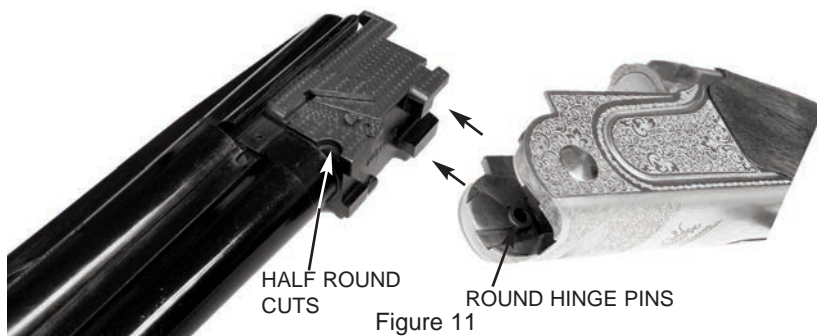

Figure 11
2. Move the top lever fully to the right, and assist the barrel swing with your hand by pulling down the barrels and lifting up to disengage the barrels from the round hinge pins in the stock/receiver assembly (Figure 11).